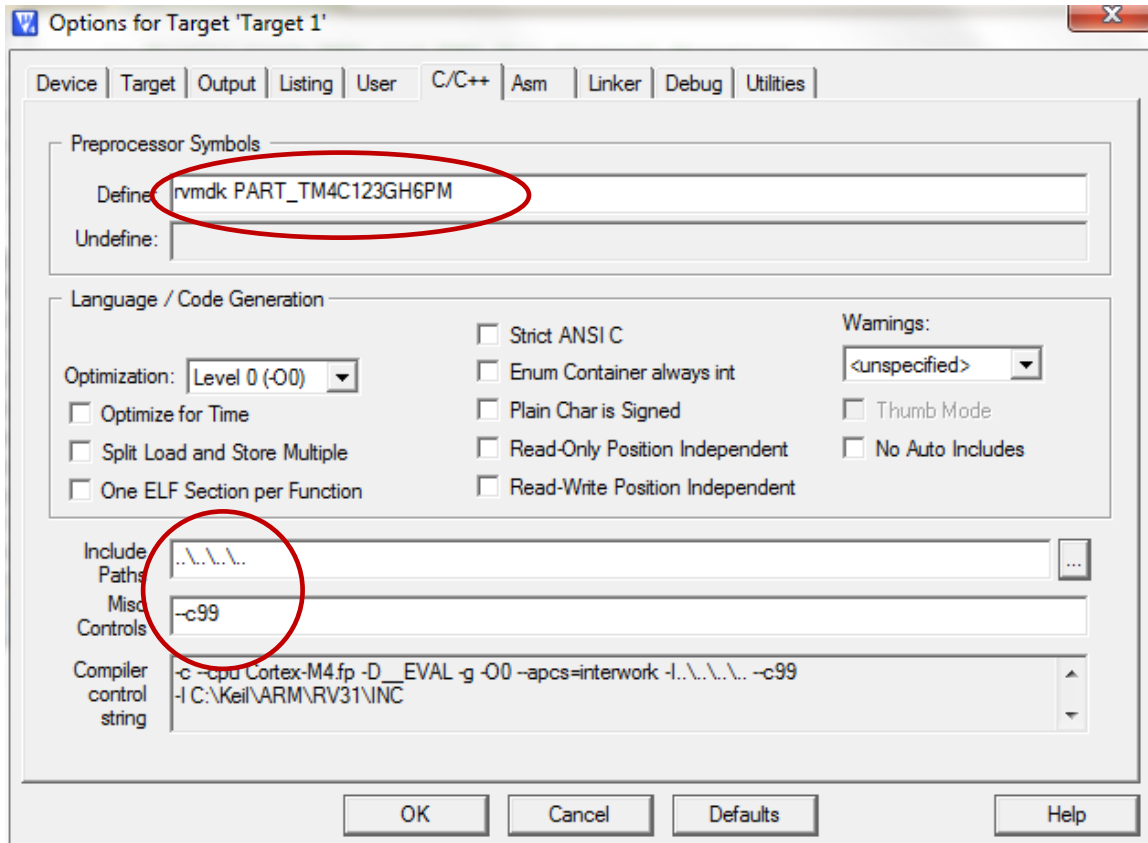

Figure 26
11. Configure C/C++ Tab. Select the C/C++ tab. Here you need to tell the project that you are using the ARM compiler, so define `rvmdk`. This definition is used in TivaWare to compile the Keil specific sections correctly. Define the part you are using as well as add the top-level TivaWare directory to your include path (see Figure 26).